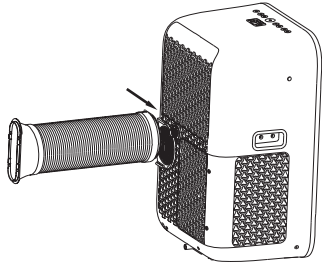

Fig.20
2. Push the Exhaust hose into the air outlet opening along the arrow direction (See Fig.20)